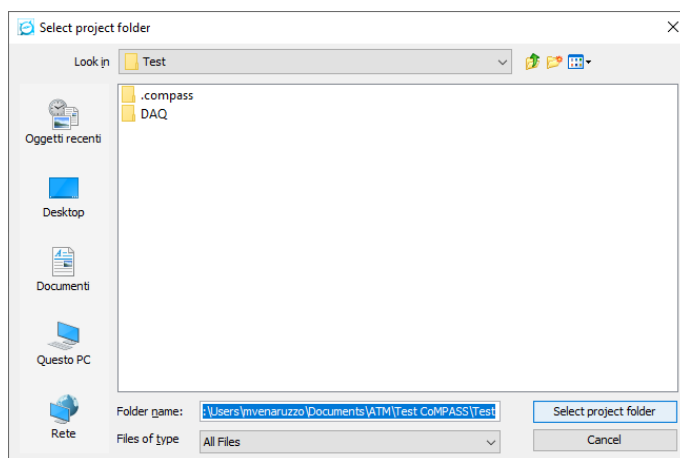

Fig. 5.3: CoMPASS New Project window.
- **New Project:** this function allows the user to start a new project (Fig. 5.3). The user has to select the folder in which the project will be created and then press on the button "Select Project Folder". If the folder already contains a CoMPASS project a pop-up appears informing the user that can decide to overwrite the selected folder content or change it.